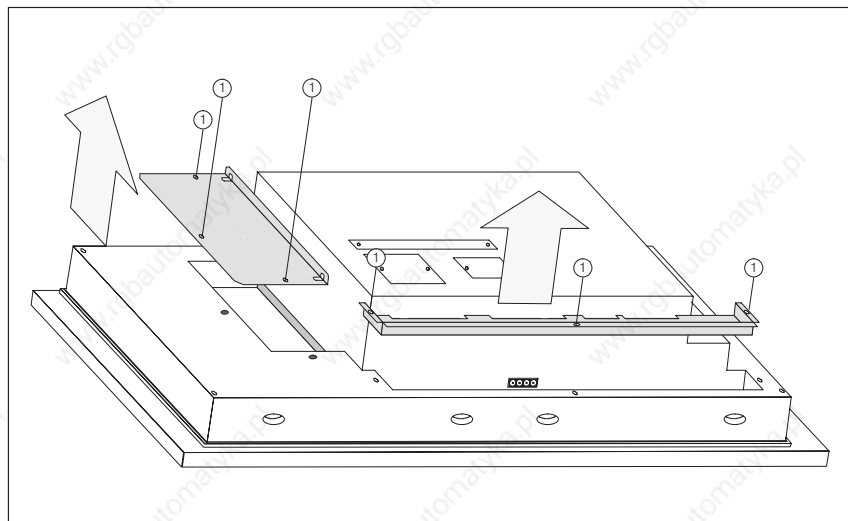

Figure 17-3 Undo screws
2. Remove the screws indicated in Figure 17-3 as ① .